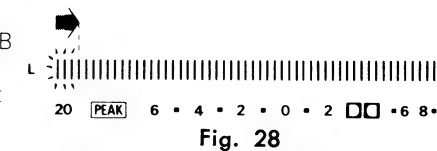

Fig. 28
- Adjust VR401 so that the  $-20$  dB segment lights up in the  $-20 \pm 0.8$  dB range (L-CH only) (See fig. 28).